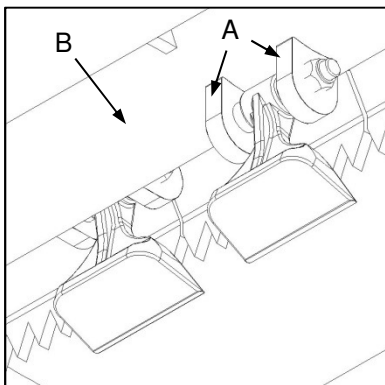

Fig. 7
- ✔ Check blade mounting lugs (Fig. 7-A) for signs of wear, distortion, elongation or fractures. Severe wear or damage to the blade mountings may necessitate replacement the complete rotor (Fig. 7-B).
- ✔ Gaan lemmonteringskloue (Fig. 7-A) na vir tekens van slytasie, verwringing, rekking of krake. Ernstige slytasie of beskadiging aan die lemmonteerstukke mag vervanging van die hele rotor noodsaak (Fig. 7-B).